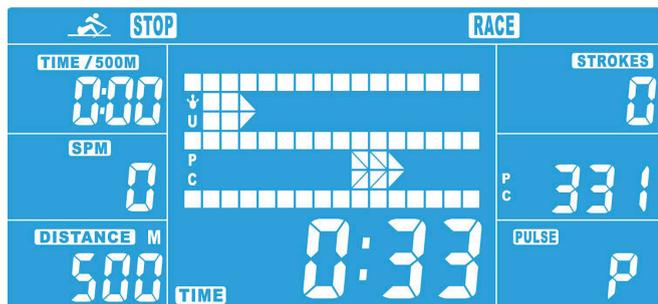
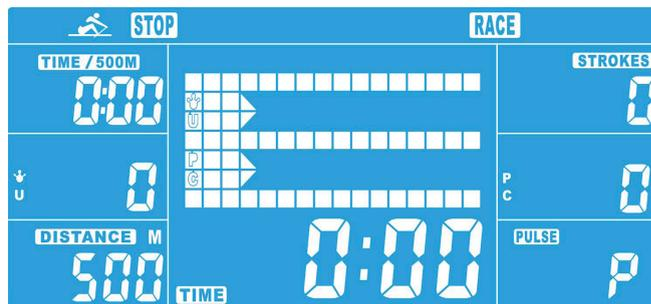

figure 12
figure 13
3. Press the START/STOP button to start your training. The status of the USER and the PC will be displayed (fig. 12). The distance of the PC will appear in the PC column and the USER's in the USER column (fig. 13).